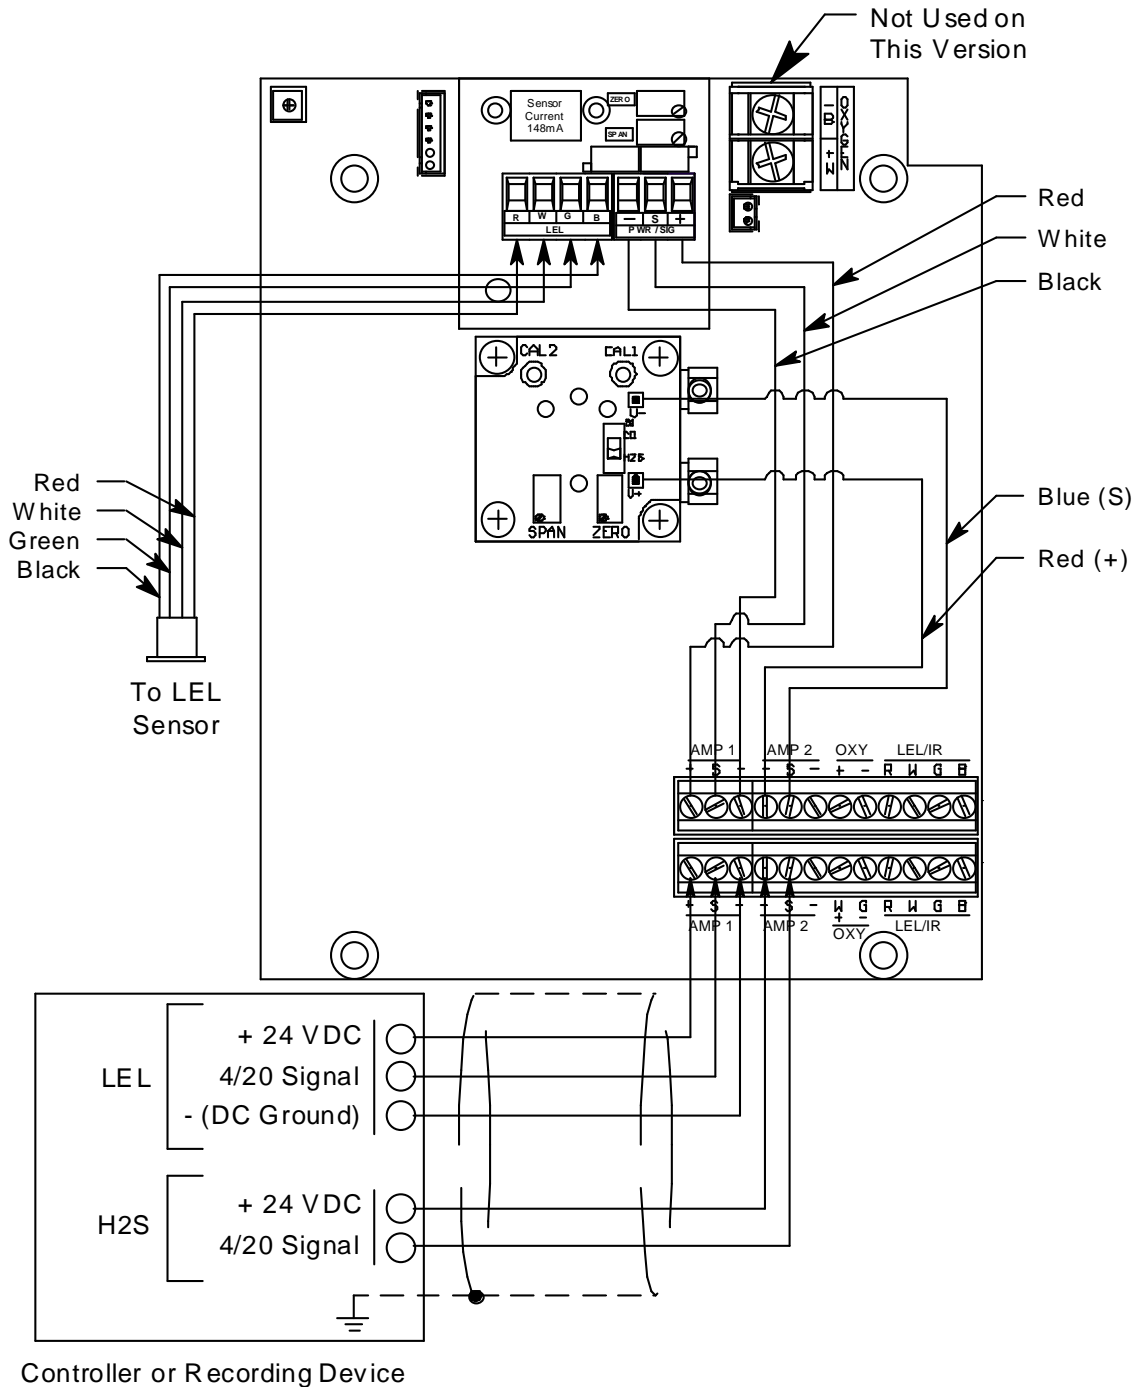

Figure 6: Wiring the Sample-Draw Detector to a Controller
5. Connect the cable to the sample-draw detector’s interconnect terminal strip as shown in Figure 6.
- Connect the wires to the applicable detector/transmitter terminal strip at the controller as shown in Figure 6. Refer to the controller operator's manual and the controller detector head specification sheet for the 35-3001A-07 for detector/transmitter terminal strip connections specific to the controller.